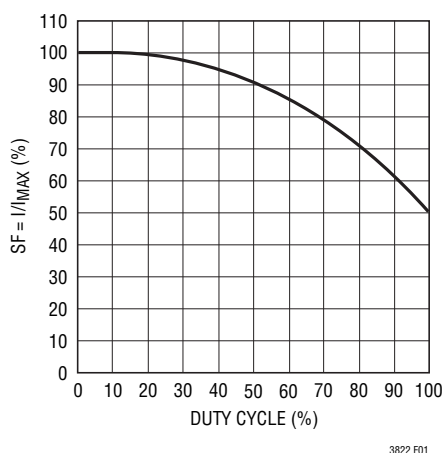

Figure 1. Maximum Peak Current vs Duty Cycle
However, once the controller's duty cycle exceeds 20%, slope compensation begins and effectively reduces the peak sense voltage by a scale factor (SF) given by the curve in Figure 1.
where SF is a scale factor whose value is obtained from the curve in Figure 1.
From Figure 1, $SF = 96\%$.